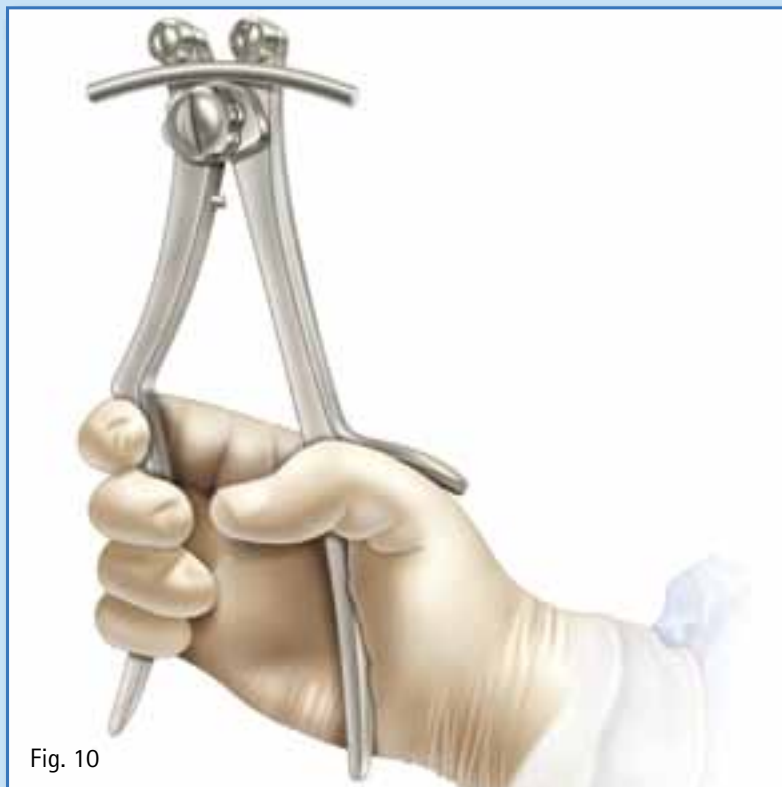

Fig. 10
- To contour the rod, place rod on the bender and squeeze the handle until the desired curvature is achieved. (Fig. 10)